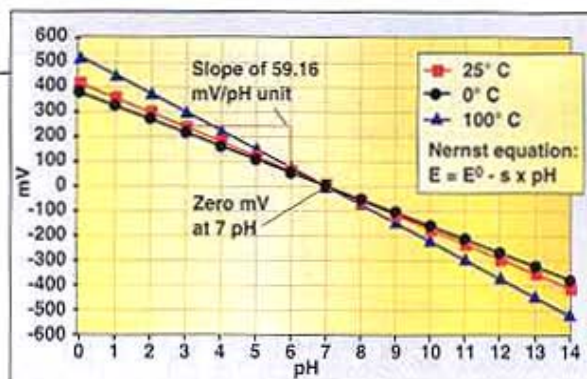

FIGURE 3. The theoretical mV response of a pH sensor is shown here
The (RT/F) factor contains a temperature term (T), so the slope will be proportional to the temperature. The ideal slope varies from 54.2 mV/pH at 0°C to 74 mV/pH at 100°C (Figure 3). Nowadays, nearly all pH analyzers compensate for this variation automatically, by measuring the process temperature and using it to adjust the calculated pH reading. This automatic temperature compensation becomes very important at higher temperatures and/or extreme values of pH.